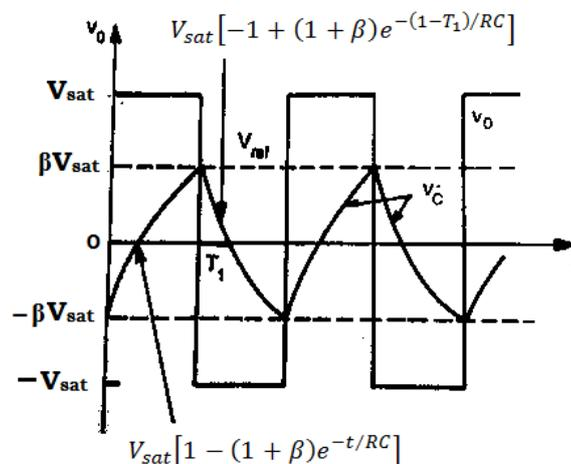

Fig. 3.31 Waveforms
- The capacitor now starts charging towards $+V_{sat}$ through resistance R, as shown in Fig.3.31.